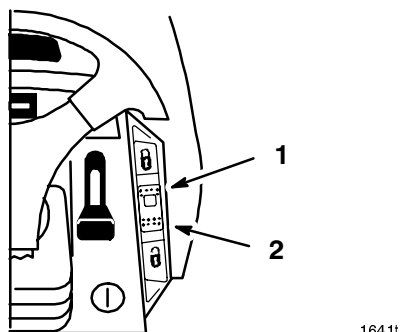

Figure 15
A 3 position: Set-Lock (spring loaded), On and Off-Unlock dash switch (Fig. 15) controls the engagement. Cruise control maintains the traction control position without foot pressure. Cruise control is intended for operation in the forward direction only. Do not use cruise control in reverse.
1. Begin driving tractor; refer to Driving Forward or Backward, Page 16. While holding your foot steady on the traction control, push the cruise control switch (Fig. 15) to the "SET"- "LOCK" position.
1. While holding your foot steady on the traction control, move the cruise control switch (Fig. 15) to the "UNLOCK"- "OFF" position.